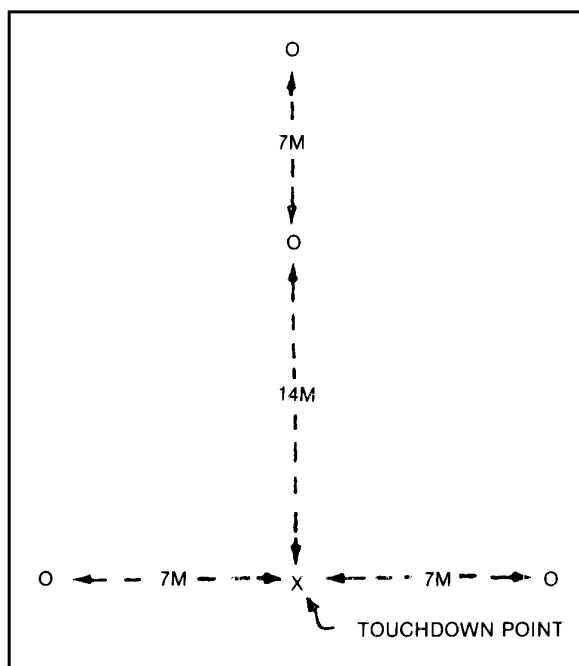

Figure 3-35
- (1) Day. The only signals required are colored smoke and a signalman. VS-17 marker panels may be used to mark the landing site, but are NOT used any closer than 50 feet to the touchdown point. In addition to identifying the landing site, the colored smoke shows the pilot the wind direction and speed.
- (2) Night. The landing site and touchdown point are marked by an inverted "Y" composed of four lights (Figure 3-35).